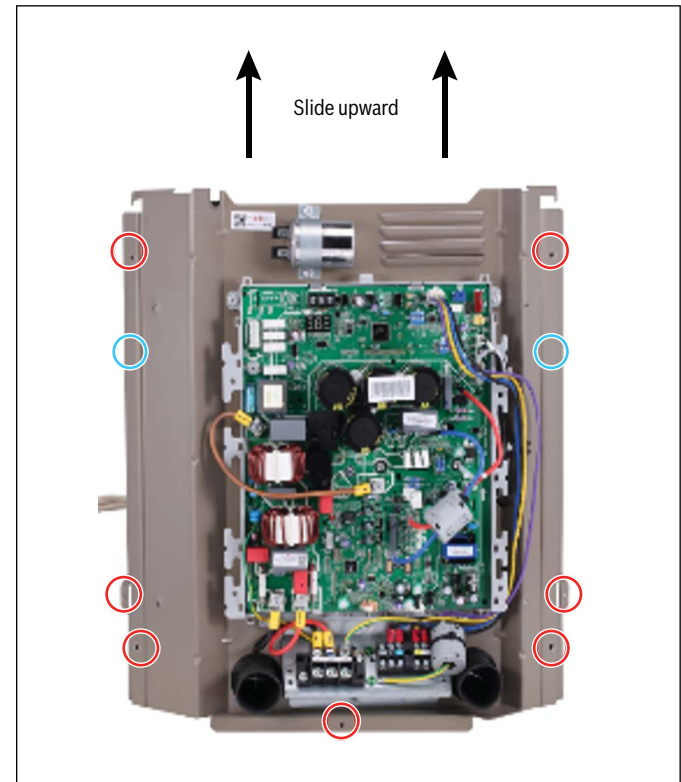

Figure 6 E-Box Removal
8. Unscrew the 7 screws to remove E-box. Slide E-box up to remove. Keep all screws for reuse. Refer to Figure 6.